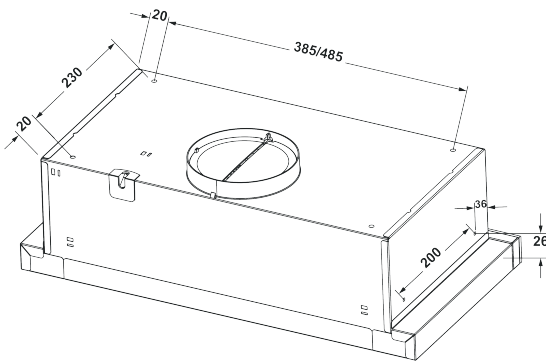

Fig. 4
6.5 For fixing we recommend use 4 drywall screws 4,8x13 DIN968 from the middle of a hood (screws are not included in the delivery set). (Fig. 4 / Fig. 4.1).